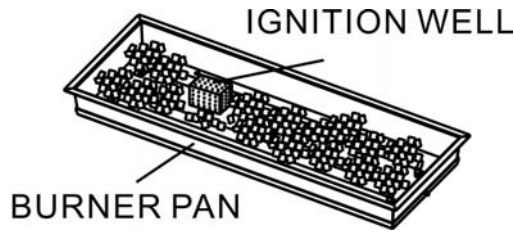

Figure 6
6. Pour ALL of the provided media (fire ice) into the burner pan. Burner MUST be completely covered to ensure the appliance functions properly and safely. Remove any fire ice on top of the ignition well. See Figure 6.